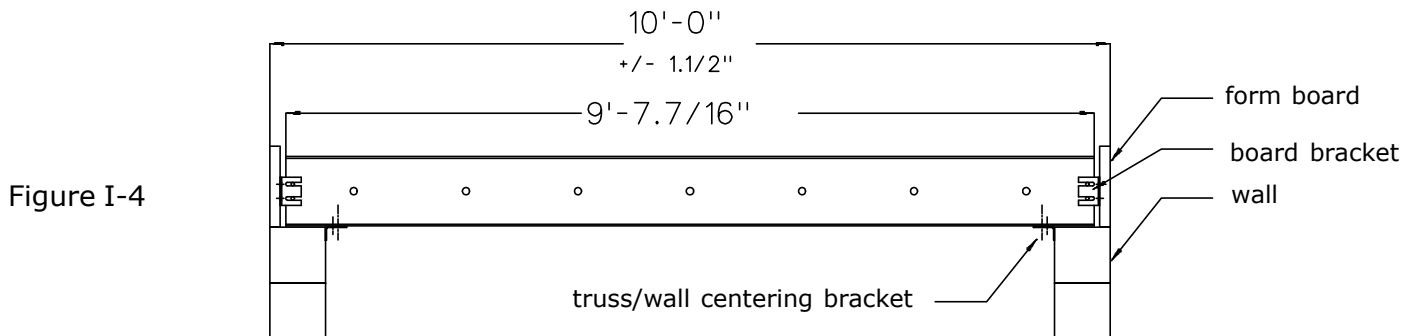

Figure I-4
It is critical that the distance between the truss centers on **both ends** of the trusses is correct as per figures I-4 and J-3.
1. Install all board brackets to the ends of the centered trusses as shown in fig. I-4, and J-3 but do not yet tighten the board bracket securely to the truss.